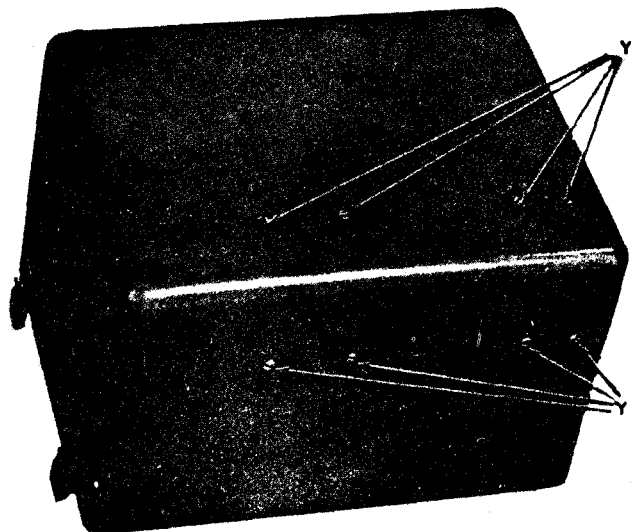

Figure 6-3. Rear-Bottom View for Removal of Power Supply PP-562/URM-25 from Cabinet
(1) To remove the power supply, take out the four binding head screws located on the bottom of the cabinet. There are also four screws on the rear of the cabinet which must be removed. (See figure 6-3).